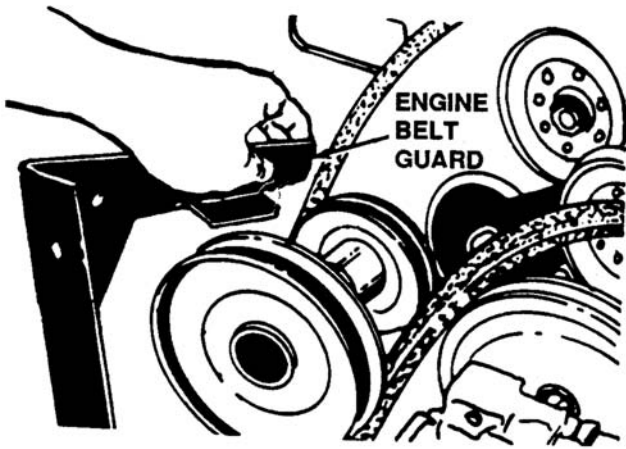

Figure 7-16. Location of Engine Belt Guard
- Remove two hex bolts, nuts and lock washers from the engine pulley belt guard at rider frame to allow the engine pulley belt guard to drop down out of the way. See Figure 7-16.